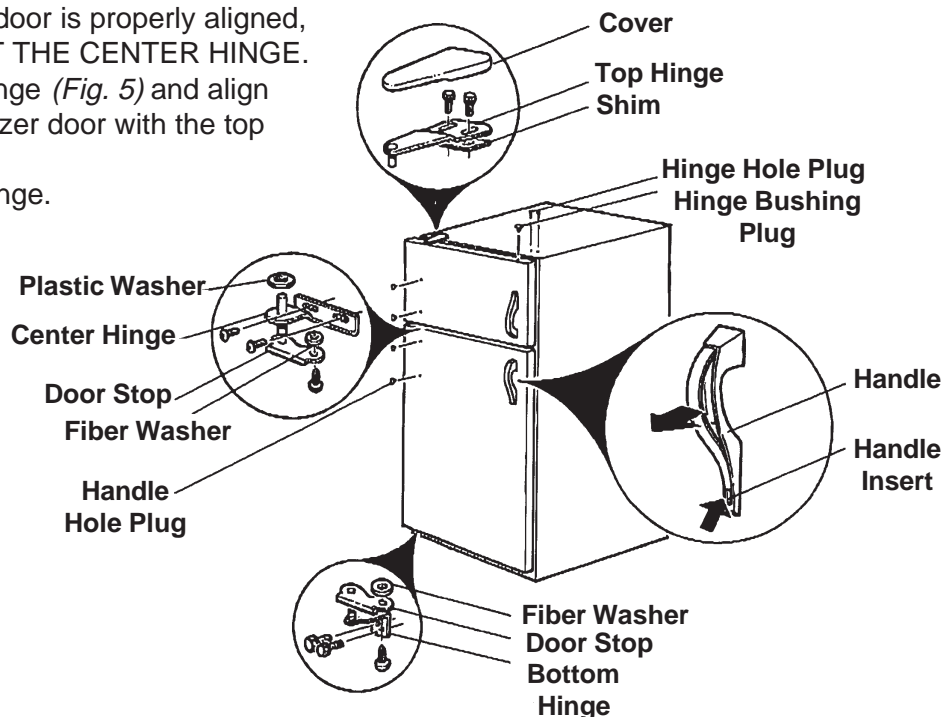

Fig. 5
2. Remove the top hinge. (Fig. 5)
4. Remove the center hinge. (Fig. 5)
6. Remove the bottom hinge. (Fig. 5)
7. Lay the freezer door on a flat protected surface and remove the door handle. (Fig. 5)
9. Lay the refrigerator door on a flat protected surface and remove the door handle. (Fig. 5)
- b) Loosen the center hinge (Figs. 5) and align the refrigerator door with the cabinet edge.
- b) Loosen the top hinge (Fig. 5) and align the top of the freezer door with the top of the cabinet.